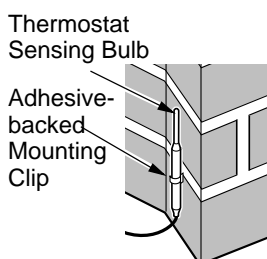
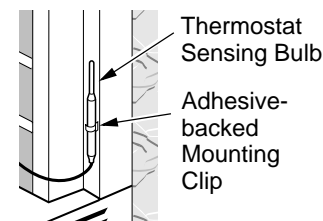
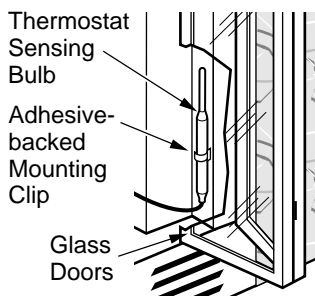

Figure 46- Locating Thermostat Sensing Bulb on Masonry Fireplace
Figure 47 - Locating Thermostat Sensing Bulb on Factory-built Metal Fireplace
Figure 48 - Installing Thermostat Sensing Bulb behind Glass Doors
3. The thermostat sensing bulb may be located to the lower right front side of fireplace. Determine location of sensing bulb, but do not mount sensing bulb until step 5. If you have a masonry fireplace, see Figure 46 for location. If you have a factory-built metal fireplace, see Figure 47 for location. If your fireplace has glass doors, position sensing bulb directly behind door gap on right bottom side (see Figure 48).